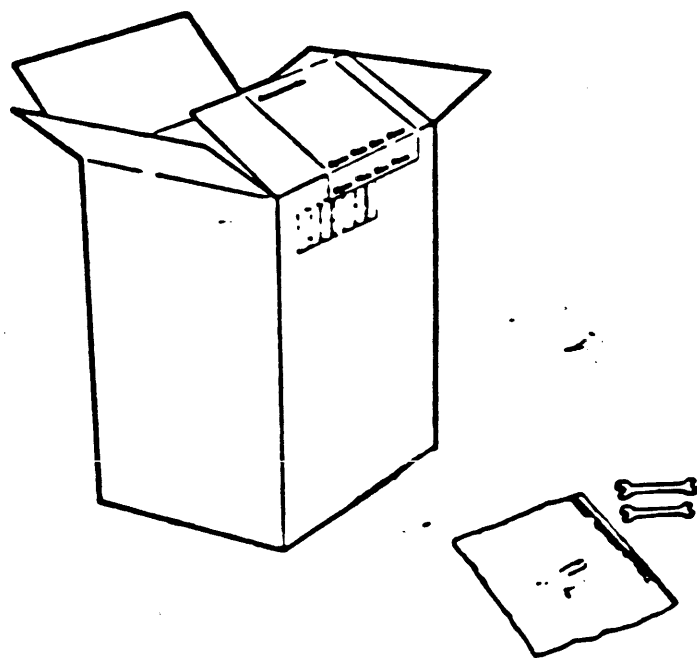

Figure 2-18. Remove the Tools from the Accessories Bag.
Step 5: Remove the bag labeled "Tools and Cables" from the accessories bag (Figure 2-18) and remove the following items: